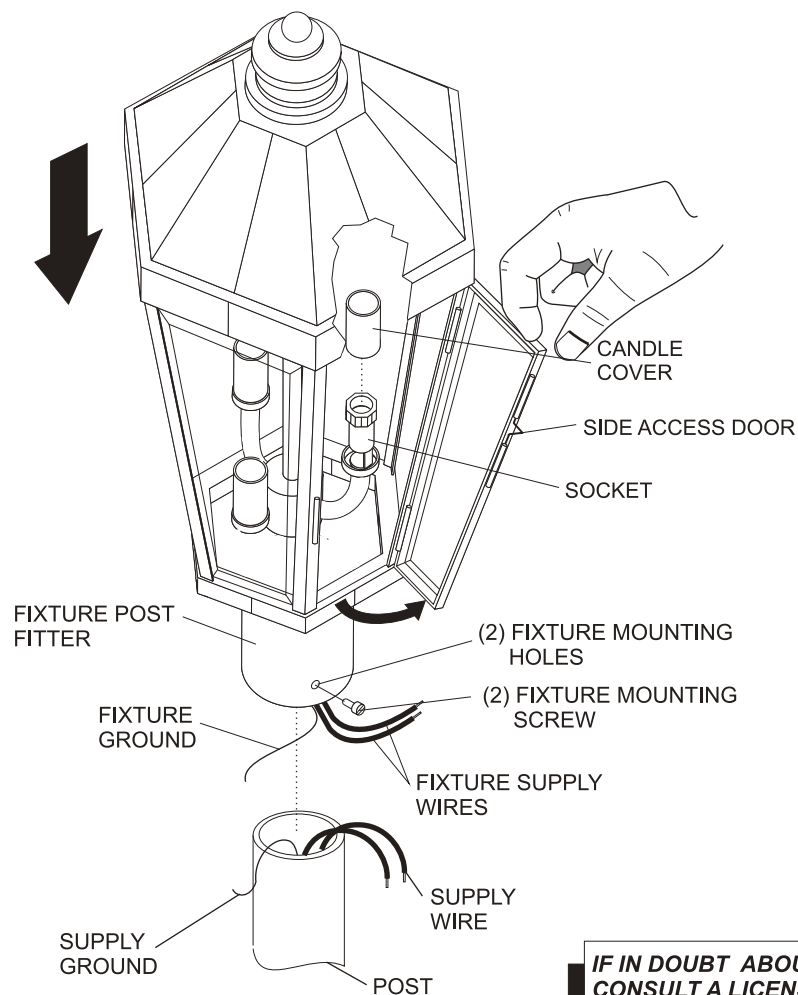

FIGURE 1.
1. Before beginning the installation, carefully unpack and identify parts, referring to FIGURE 1.
3. Carefully fit the FIXTURE POST FITTER over the end of the POST, making sure the FIXTURE POST FITTER is fully seated. Mark the (2) drill points for the FIXTURE MOUNTING SCREWS, using (2) FIXTURE MOUNTING HOLES as reference. After marking hole locations, remove FIXTURE from POST and drill (2) 1/16" pilot holes for screws.
5. Coat the top 1" of the POST with SILICONE CAULK and locate the FIXTURE POST FITTER onto the POST. Be sure to seat it completely, aligning the (2) holes in the FITTER with the (2) 1/16" PILOT HOLES drilled into the POST. Secure the FIXTURE to POST with (2) FIXTURE MOUNTING SCREWS (supplied).